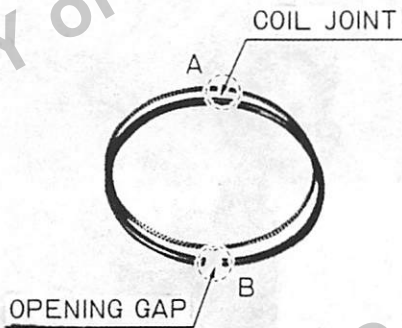

Fig. 3-4-24 Fitting section
- (1) To fit piston ring to piston, place piston skirt down and use piston ring expander (special tool No. 09442-1011). Hold piston ring stamped side up (top side of piston), and fit, beginning with the bottommost ring and working up in the sequence of Fig. 3-4-23 and Fig. 3-4-24.
(See Fig. 3-4-24).